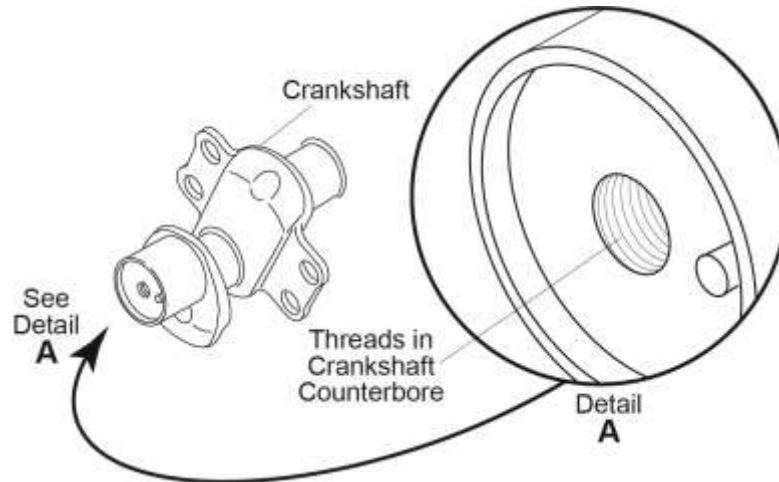

Figure 1
C. Clean the threads in the crankshaft counterbore (Figure 1) as follows:
- (1) Use the correct sized undamaged bottoming tap for a 5/16-24 thread size. Do not use an oversized tap.
- (2) Install the tap into the recessed counterbore on the crankshaft.
- (3) Turn the tap as necessary to clean the threads.
- (4) Remove the tap.
- (5) Flush the crankshaft counterbore threads with mineral spirits (MIL-PRF-680) or equivalent or Stoddard Solvent, or equivalent solvent to remove any debris.
- (6) Dry the crankshaft counterbore threads with compressed air.
D. Examine the threads in the crankshaft counterbore (Figure 1). If the threads are worn, stripped, galled, or damaged, send the crankshaft to Lycoming Engines for repair.